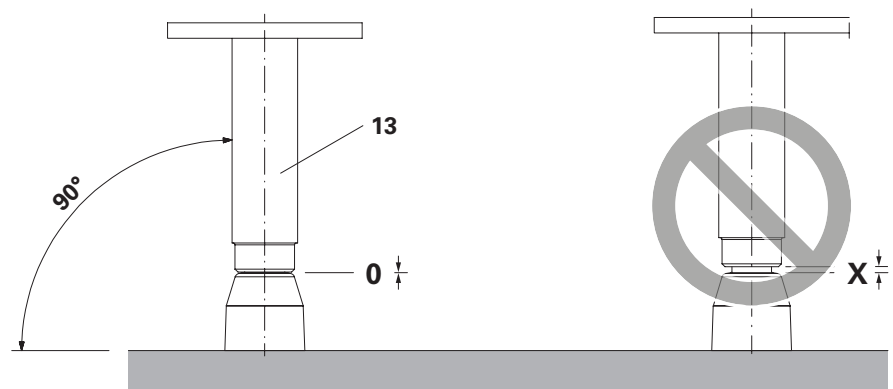

Fig. A5.03
4. Screw in Anchor Sleeve M24 **(13)** as far as possible, at 90° to the formwork panel. (Fig. A5.03)